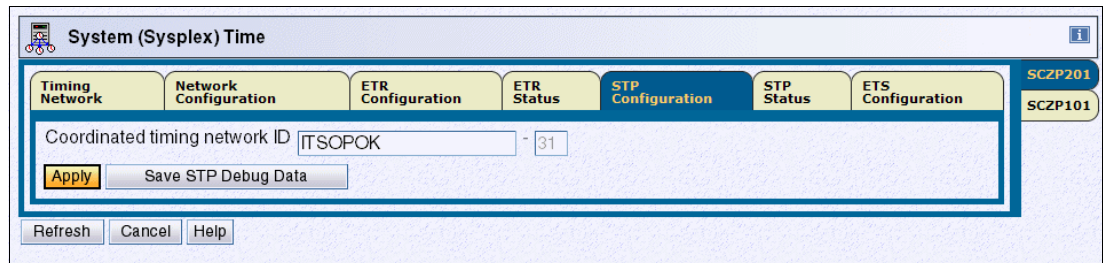

Figure 8-11 STP Configuration tab - Define STP ID (SCZP201)
3. Enter the required STP ID (in our case, ITSOPK) in the Coordinated Timing Network ID fields (Figure 8-11).